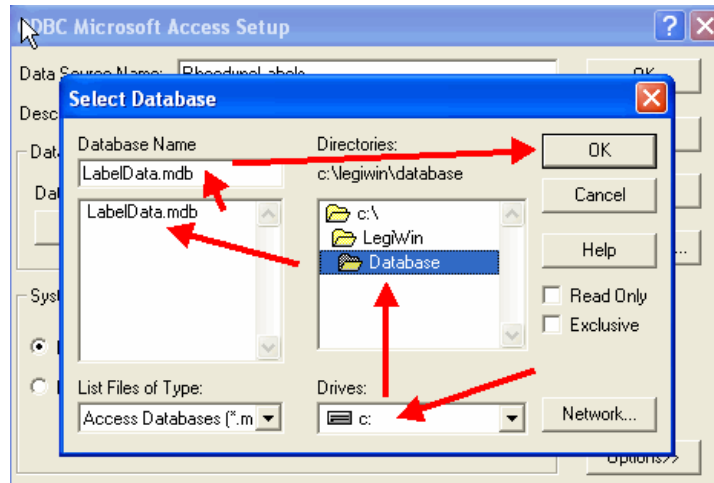

Figure 2-14
2.5.6. Select the MS Access database you created and named *LabelData*. (Figure 2-14)
2.5.7. Click [OK]. (Figure 2-14)